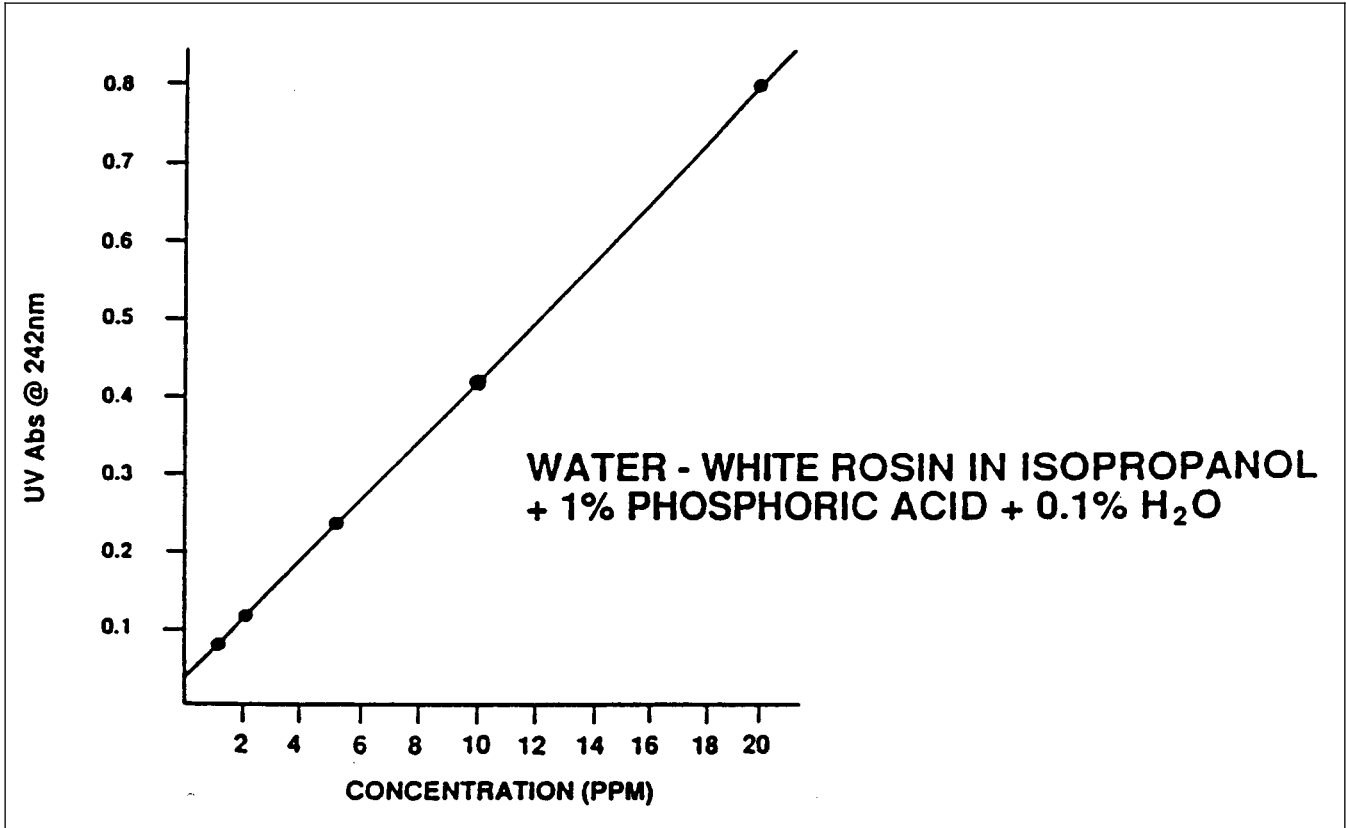
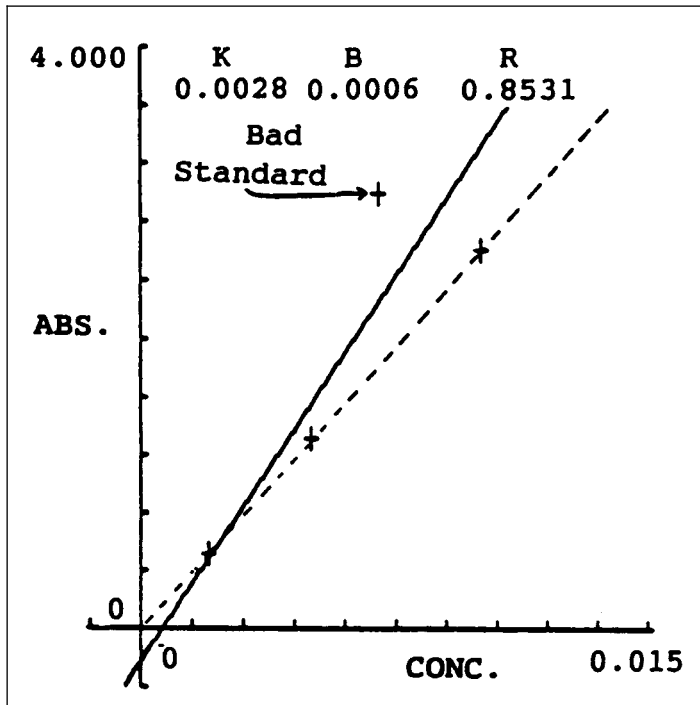

Figure 1
Figure 2
- (3) Go to 241 nm wavelength and zero or record the absorbance reading as the 0.00% standard. This is also known as the "Y ntercept."
- (4) Remove the sample cuvette and dump the TEST SOLUTION. Fill the cuvette with the 0.002% standard and insert it back into the spectrophotometer. Record the absorbance reading.
- (5) Repeat step four until all of the standards have been measured. Rinse the cuvette at least two times with TEST SOLUTION between each standard. Be sure that the outside of the cuvette is clean and dry before each measurement.
- (6) When all of the standards have been measured, graph the absorbance readings versus the percent concentration. Draw a line that best fits the points plotted. Ideally, the line should run through all of the points plotted (see Figure 1). If it does not, a problem has occurred in either the standards or a data entry. Check the printout to see that all data was entered properly. Look at the graph to see if one of the data points is located off line with the others as in Figure 2. If all of the points seem to be scattered, there is probably something wrong with the stock solution and the whole process will need to be redone.
- (7) Calculate the slope of the line using the following calculation: